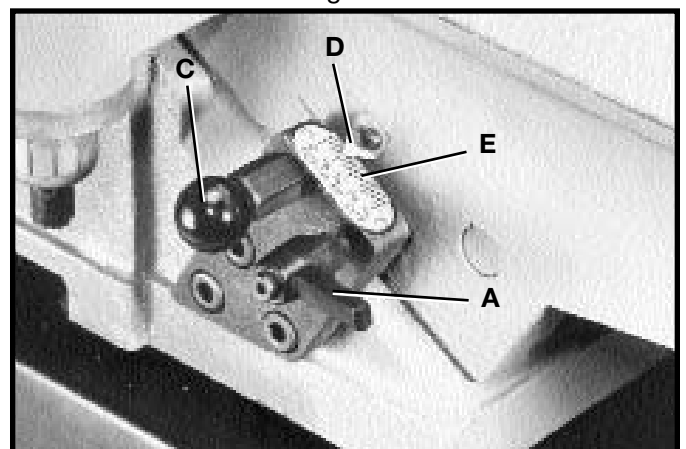

Fig. 36
2. **NOTE:** When raising or lowering the infeed table a plunger located on other end of the index stop (C) Fig. 36, automatically stops the table at 1/8 inch depth of cut. To move the table past this point it is necessary to pull out index stop (C) and move the table up or down.
3. The depth of cut of the infeed table (position of table in relationship with the cutting circle) can be read with the pointer (D) Fig. 36, and scale (E). Maximum table depth adjustment with this 6" jointer is 1/2 inch.